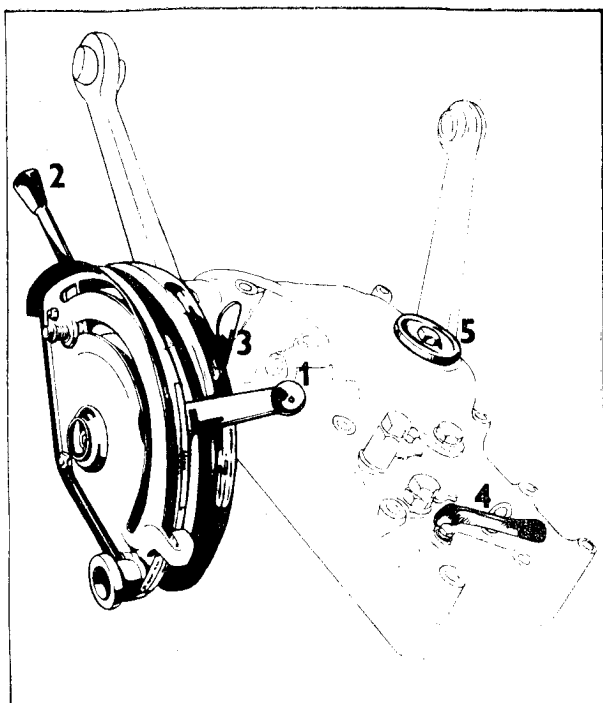

Fig. 6
1. Hydraulic power lift remote circuit control lever (Fig. 6/1).
2. Hydraulic power lift inner circuit control lever (Fig. 6/2).
3. Hydraulic power lift selecting lever (Fig. 6/3) can be displaced in three positions according to the selected control system:
4. Hydraulic power lift response lever (Fig. 6/4).
5. Oil cleaner magnetix plug of the hydraulic power lift (Fig. 6/5).